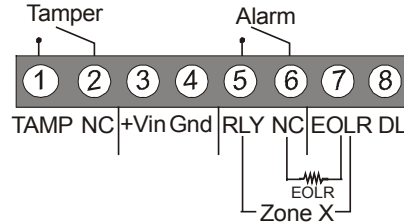

Figure 1: Terminal Block
- Connect the wires** to the terminal block (as shown in figure 1). **Note: This equipment should be installed in accordance with the NFPA 70 standard.**
Terminal 7: Optional end of line resistor - see figure 1.